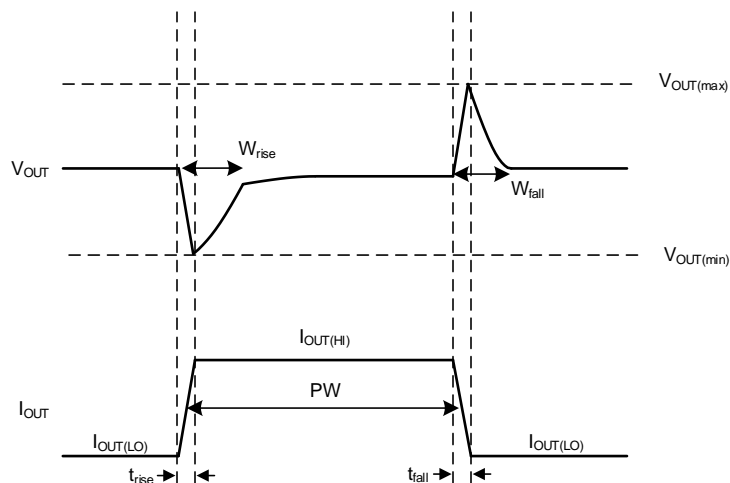

图 56. Simplified Load Transient Waveform
The transient response peaks ($V_{OUT(max)}$ and $V_{OUT(min)}$) are improved by using more output capacitance; however, doing so slows down the recovery time (W_{rise} and W_{fall}). 图 56 shows these parameters during a load transient, with a given pulse duration (PW) and current levels ($I_{OUT(LO)}$ and $I_{OUT(HI)}$).